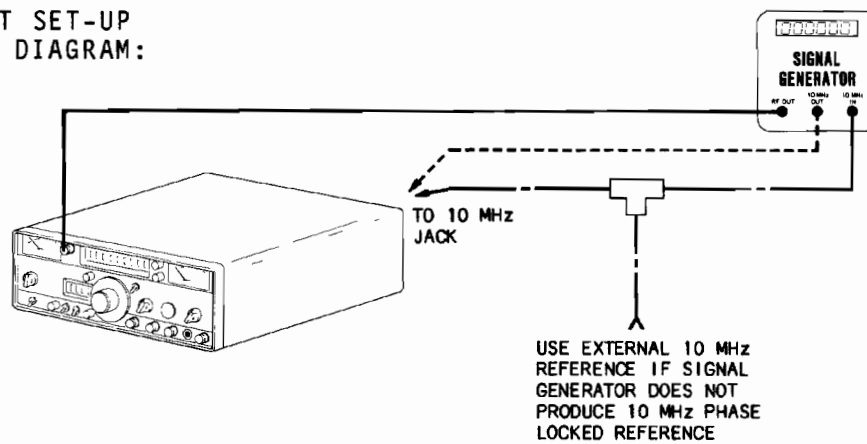

Figure 3-6 Modulation Meter Lab Test Set-Up
1. Connect FM/AM-500A to accessory test equipment as shown in Figure 3-6.
2. Verify MODULATION Meter (1) indicates 0.
3. Set Power Switch (17) in "LINE" position. Verify LOCK Lamp (22) illumination is steady.
4. Set Signal Generator to produce a 500.0000 MHz CW carrier at -50 dBm. Verify MODULATION Meter (1) indicates less than 100 Hz deviation.
5. Apply 1000 Hz FM signal at 2 kHz deviation to the output of the Signal Generator. Verify MODULATION Meter (1) indicates 2 kHz deviation.
6. Rotate Modulation Meter Range Switch (4) to "6". Verify MODULATION Meter (1) indicates 2 kHz ( $\pm 240$  Hz) deviation.
7. Set deviation on Signal Generator to 5 kHz. Verify MODULATION Meter (1) indicates 5 kHz ( $\pm 430$  Hz).
8. Rotate Modulation Mode Switch (9) to "FM MID".
9. Rotate Modulation Meter Range Switch (4) to "20". Verify MODULATION Meter (1) indicates 5 kHz ( $\pm 850$  Hz).
10. Set deviation on Signal Generator to 20 kHz. Verify MODULATION Meter (1) indicates 20 kHz ( $\pm 1.6$  kHz).